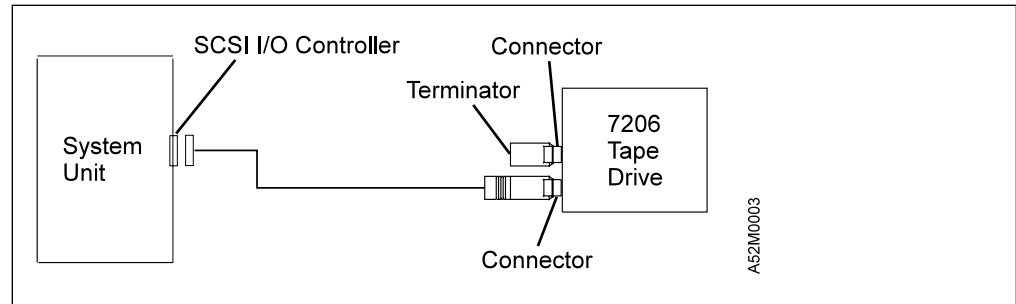

Figure 5. Example of Attaching One SCSI Device to the System Unit
- If the 7206 Tape Drive is the only device attached to the system, connect the cable to the system unit (see Figure 5 on page 7).
- If the 7206 Tape Drive is the only SCSI device on the SCSI bus, install the terminator on one of the dual connectors of the 7206 Tape Drive (see Figure 5).